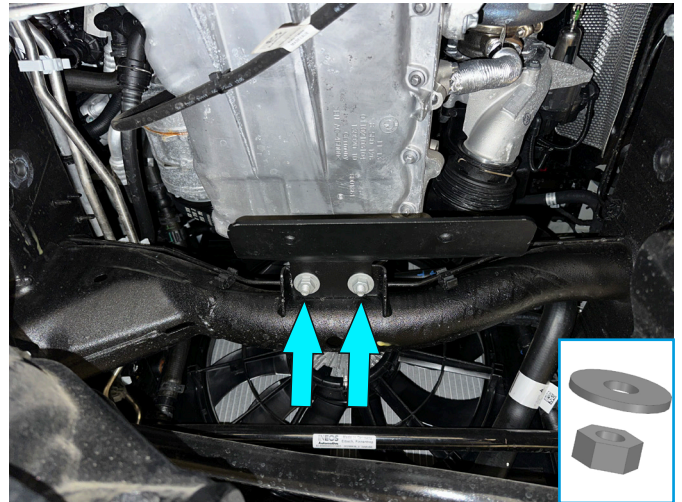

Fig. 2
2. Fix bracket (item 3) to insert bolts using nuts M10 and washers M10 (items F, E) (fig. 2).